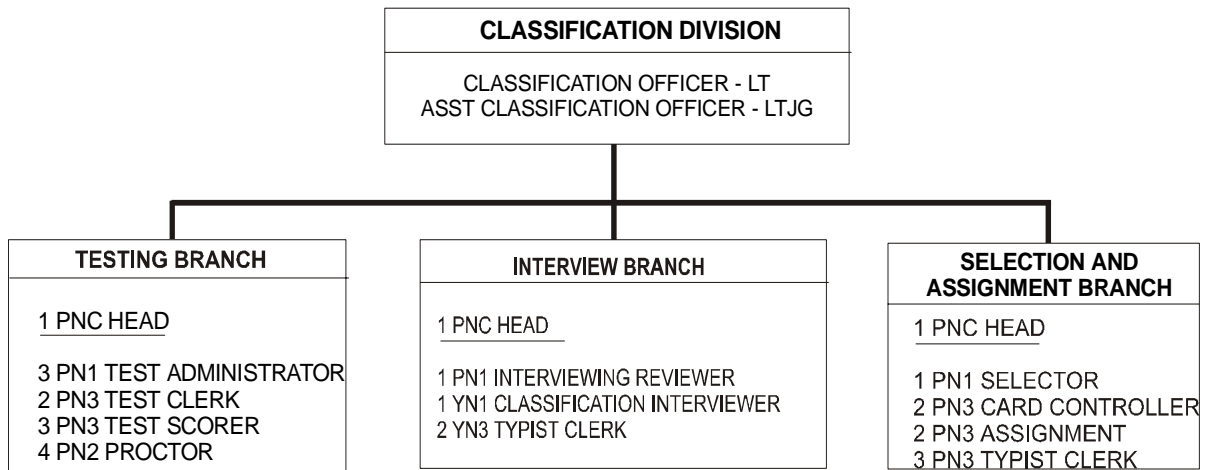

Figure 3-8. Position chart.
- (c) The position chart (or billet assignment) is used to show the various positions held by each individual within an organization. These charts will show names, billets, and titles or grades of personnel as they fit into the organization; or show billet, titles, and grades without reference to names of individuals involved. See Figure 3-8.